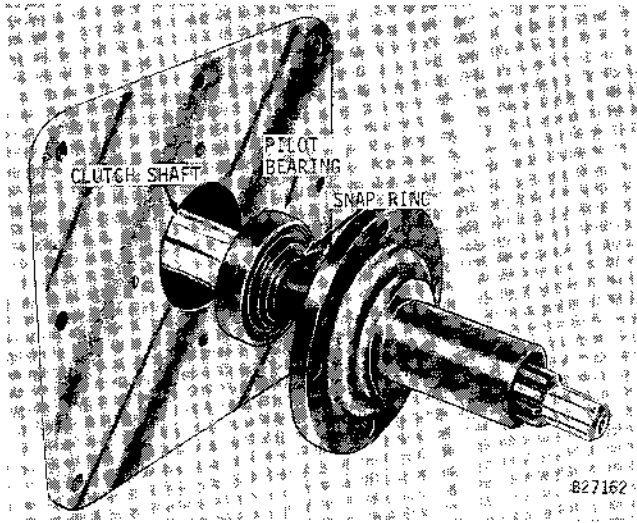

Figure 7 - Spindle, Bearing, Clutch Shaft
7. Check the bearing on the clutch shaft. If replacement is necessary, remove the snap ring and press the bearing from the shaft. The throwout bearing carrier slides on the spindle, therefore the spindle must be free of nicks, burrs, or imperfections. Install new bearing and reassemble, Figure 7.